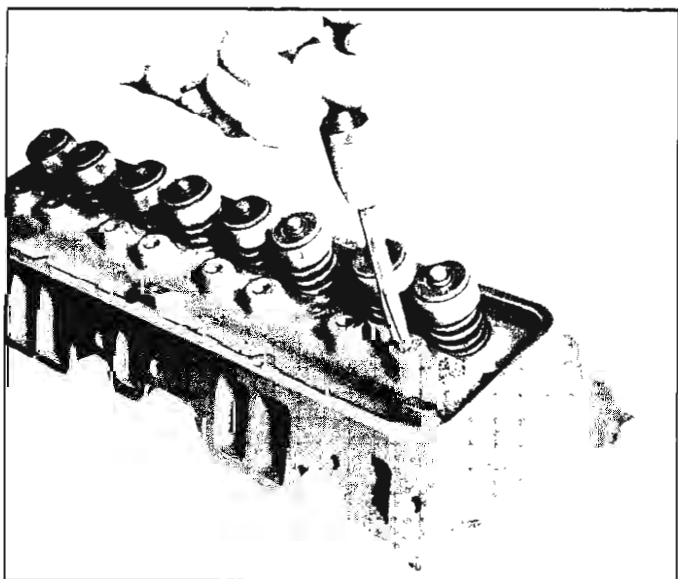

Fig. 68—Reaming Stud Hole
2. Ream hole for oversize stud, using Tool J-5715 for .003" oversize and Tool J-6036 for .013" oversize (fig. 68).